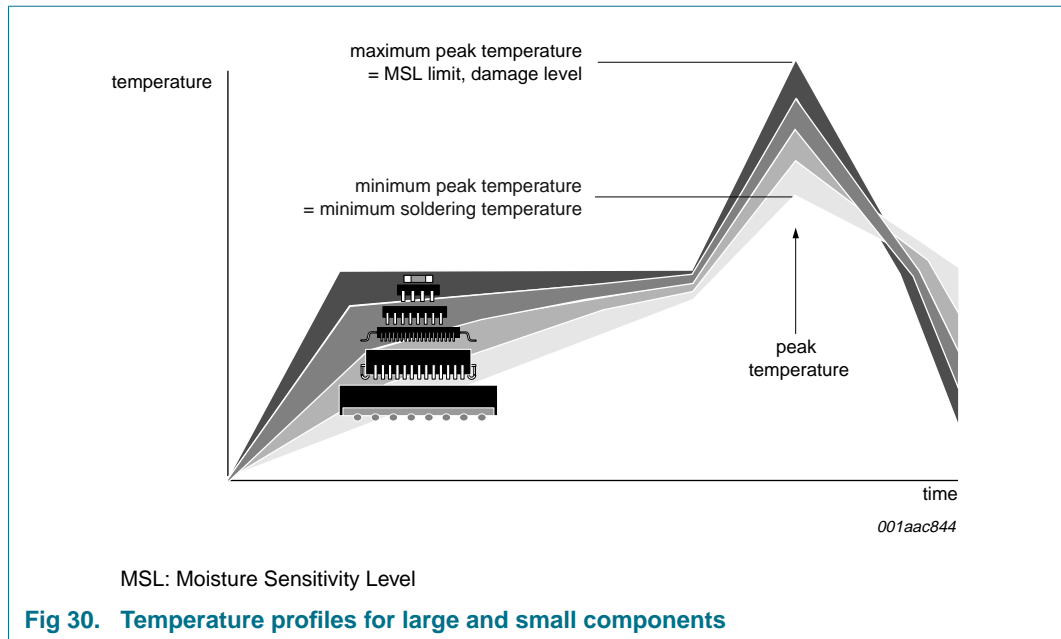

Fig 30. Temperature profiles for large and small components
- Lead-free versus SnPb soldering; note that a lead-free reflow process usually leads to higher minimum peak temperatures (see Figure 30) than a SnPb process, thus reducing the process window
Studies have shown that small packages reach higher temperatures during reflow soldering, see Figure 30.